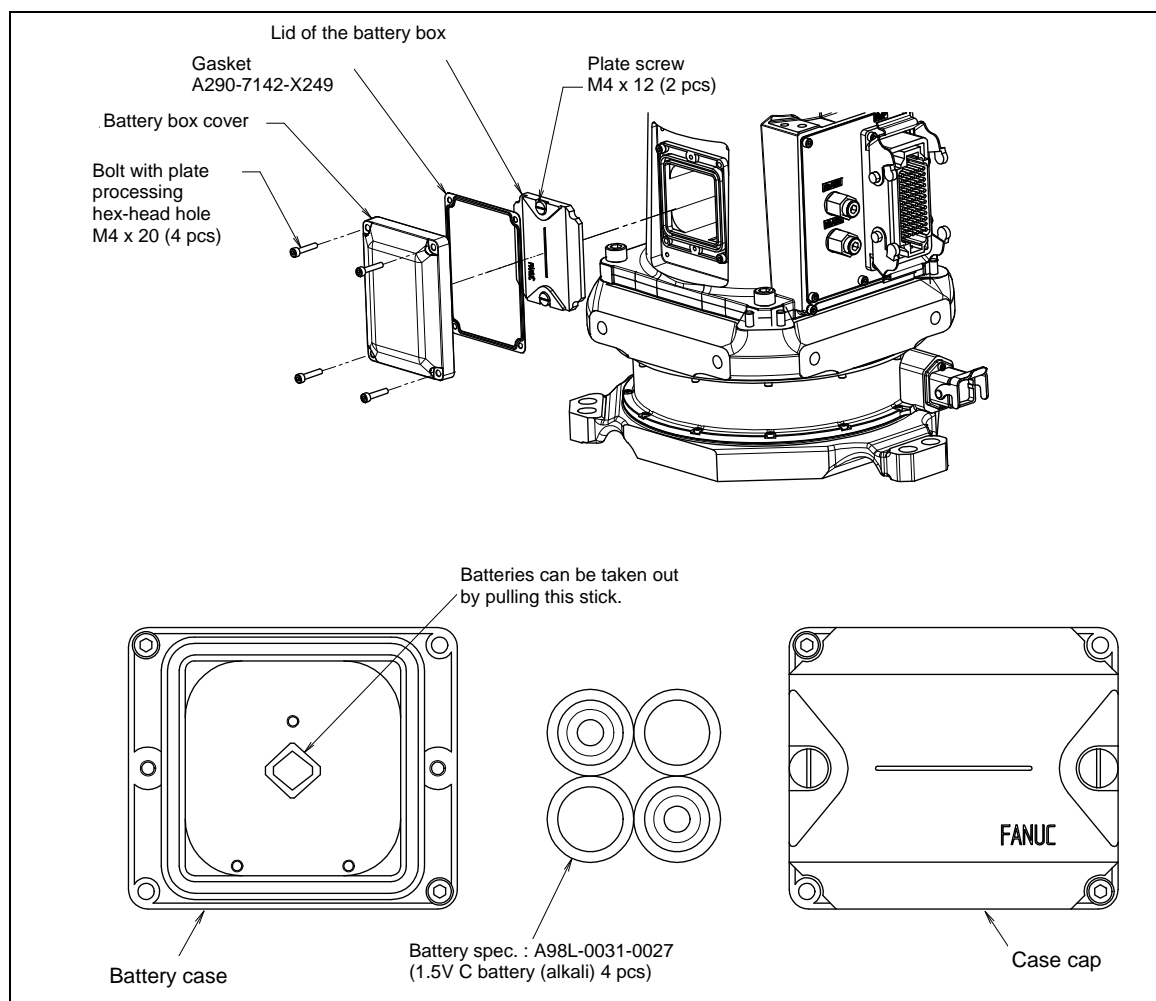

Fig. 7.3.1 (a) Replacing the battery
- 2 Remove the battery case cap. (Fig. 7.3.1 (a)) If it cannot be removed, tap it on the side with a plastic hammer.